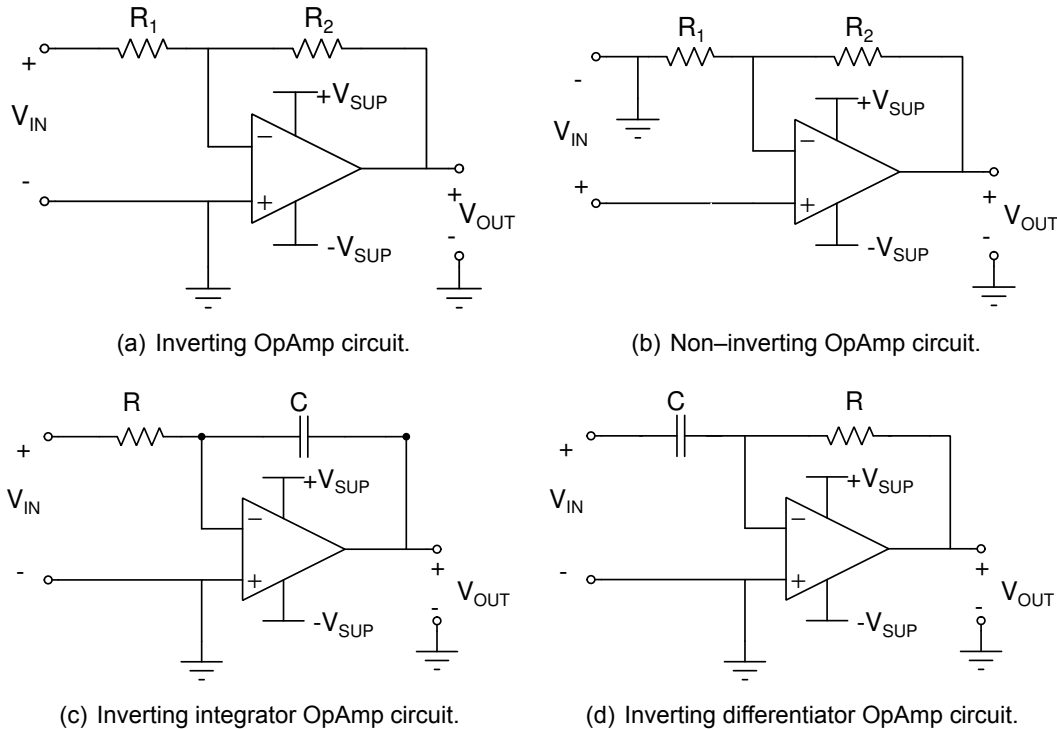
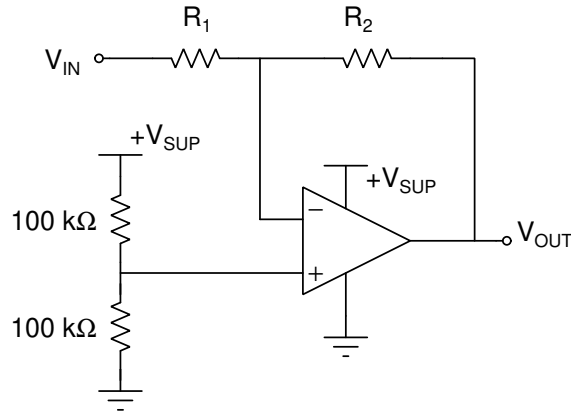

Figure 1: Four basic OpAmp circuits using negative feedback.
Figure 2: Inverting OpAmp circuit operated from a single power supply.
1. Review the ideal OpAmp circuits from ECE 210 and make sure you are able to calculate the transfer function,  $V_{OUT}(t)$  as a function of  $V_{IN}(t)$ , for each of the four OpAmp configurations shown in **Figure 1**. These OpAmps use dual-rail voltages ( $\pm V_{SUP}$ ), and negative feedback to achieve amplification within the active region of operation.
2. Design an inverting OpAmp circuit, shown in **Figure 1(a)**, with a gain of -8 V/V and an input resistance between 5 k $\Omega$  and 100 k $\Omega$ .
3. Simulate the inverting OpAmp circuit designed in **Pre-Lab item 2**.
- Design a non-inverting OpAmp circuit, shown in **Figure 1(b)**, with a gain of +12 V/V and an input resistance between 5 kΩ and 100 kΩ.
- Verify the design by simulating the non-inverting OpAmp circuit designed in **Pre-Lab item 4**. Set the input signal to a sine wave, with an amplitude of 0.5 Vp, and a frequency of 2 kHz. Plot  $V_{OUT}$  and  $V_{IN}$  as a function of time. What are the gain and phase shift of the output with respect to the input? How do the results from the LM741 OpAmp compare with an ideal OpAmp?
- Design an inverting integrator OpAmp circuit, shown in **Figure 1(c)**, with a gain of -6 V/V when the input is a sine waveform with a frequency of 2 kHz. Set the capacitance value to 0.15 μF.
- Verify the design by simulating the inverting integrator OpAmp circuit designed in **Pre-Lab item 6**. Set the input signal to a sine wave, with an amplitude of 0.5 Vp, and a frequency of 2 kHz. Plot  $V_{OUT}$  and  $V_{IN}$  as a function of time. What are the gain and phase shift of the output with respect to the input? How do the results from the LM741 OpAmp compare with an ideal OpAmp?
- OpAmp circuits can be modified to operate from a single-rail voltage. This is illustrated in **Figure 2** for the inverting amplifier. In this circuit,  $-V_{SUP} = 0$  V, and the non-inverting input ( $v_n$ ) is biased at  $+V_{SUP}/2$ . Draw the schematic of the inverting-integrator OpAmp when operated
2. Build the non-inverting OpAmp circuit designed in Pre-Lab item 4.
- 3. Build the inverting integrator circuit designed in Pre-Lab **item 6**.
- 4. Build the inverting differentiator shown in **Figure 1(d)** with  $R = 1\text{ k}\Omega$  and  $C = 0.15\text{ }\mu\text{F}$ . What is the relationship between  $V_{\text{OUT}}$  and  $V_{\text{IN}}$  for this circuit?